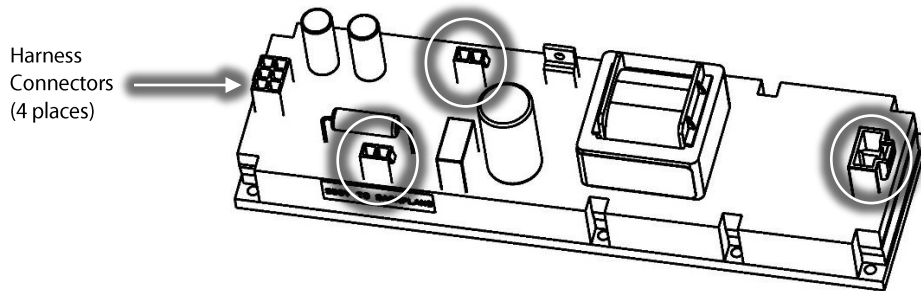

Figure 17 – DC-DC Harness Removal
27. Disconnect all wiring connections from the HV DC-DC. Refer to Figure 17 (DC-DC Harness Removal).
18. Reconnect all electrical connections to the HV DC-DC converter. Refer to Figure 17 (DC-DC Harness Removal).